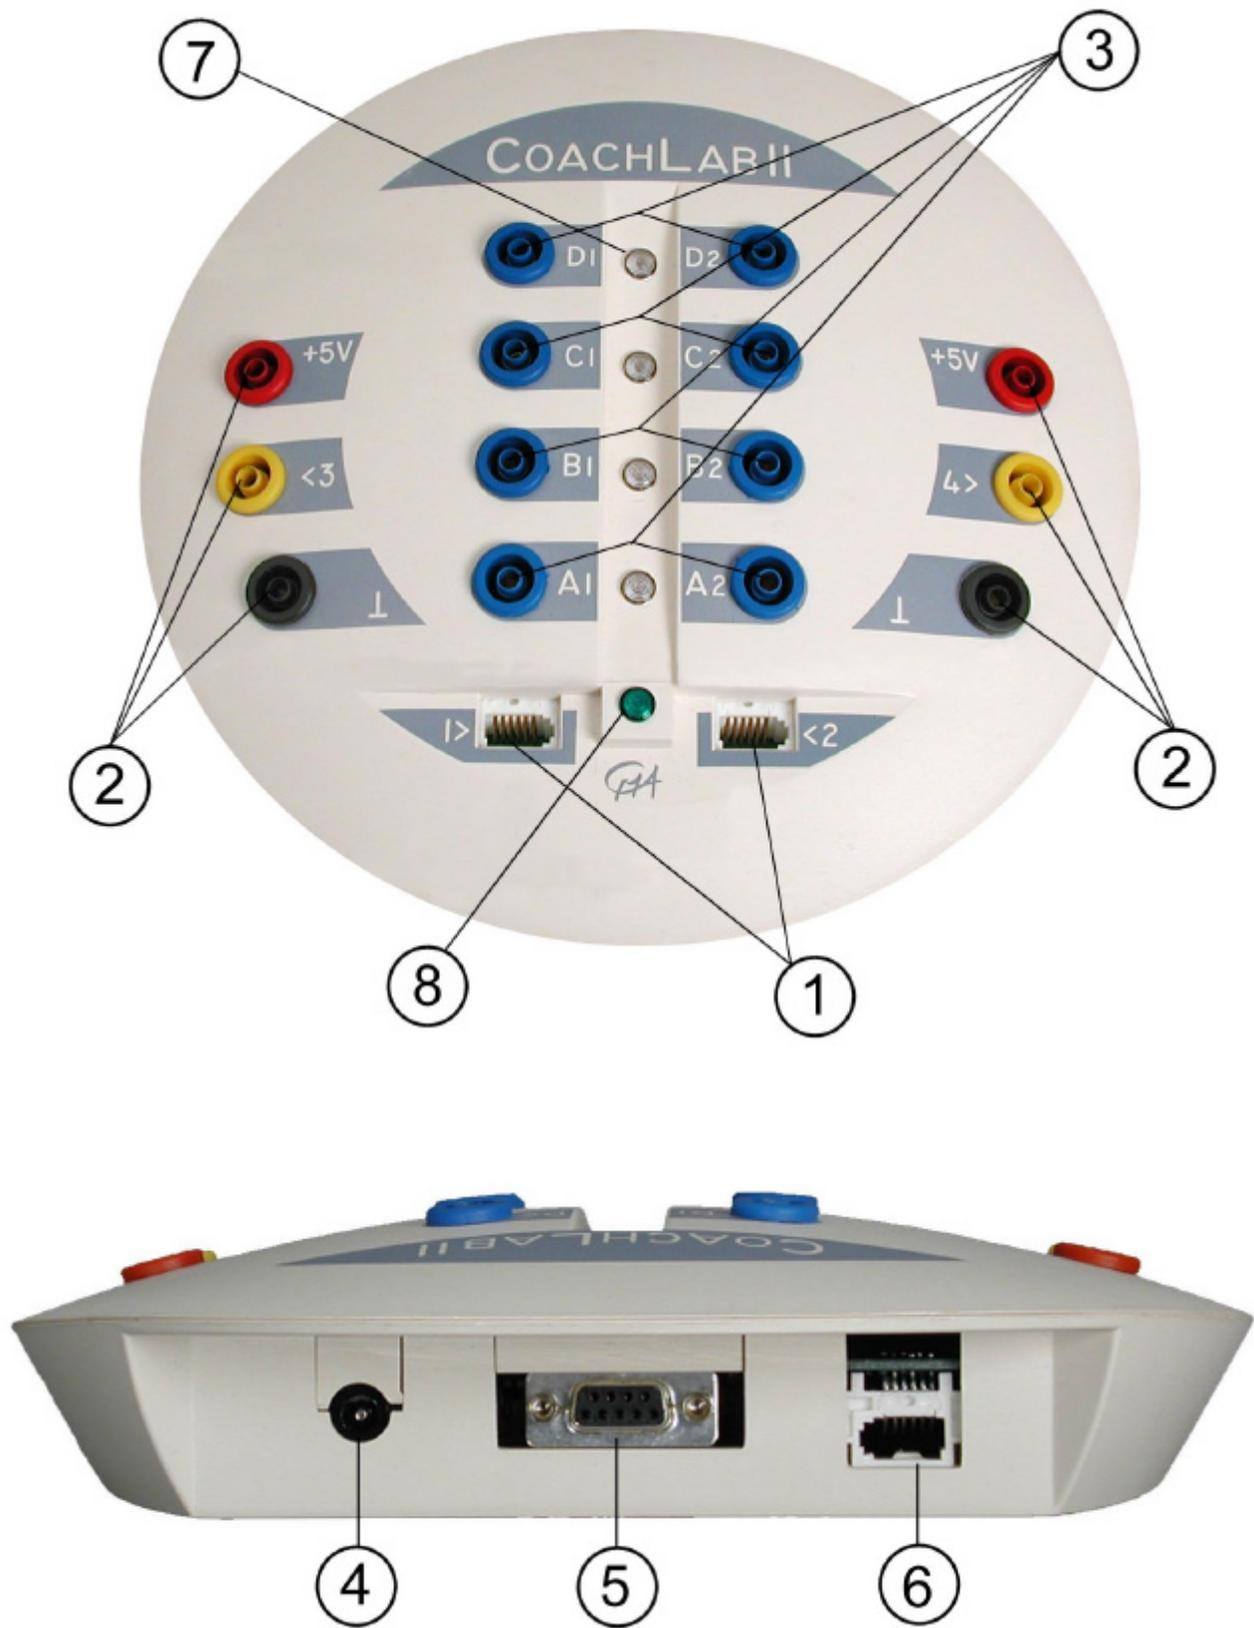

Figure 2. The different parts of CoachLab II (top view & rear view). The numbers refer to the text.
The CoachLab computer connection is located on the rear side of the interface (figure 2, ⑤).